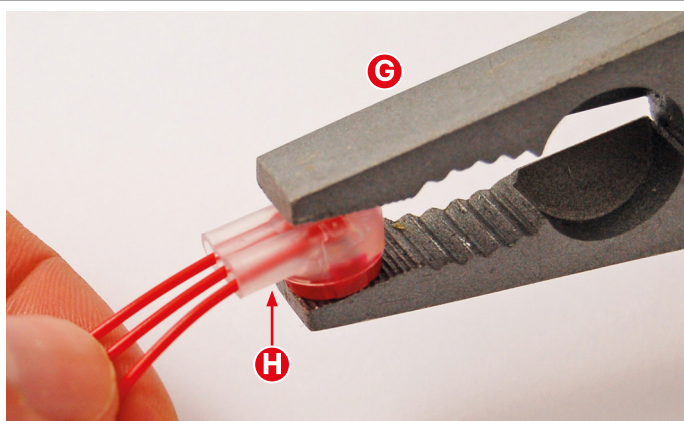

Fig. 24
9. Once the three **red** wires are in position use a pair of pliers, **Fig.24, G** and place them over the **red** cap of the **Scotchlok™** 3 way butt connector and the transparent side and apply pressure to crimp the wires into place, as shown in **Fig.24, H**.